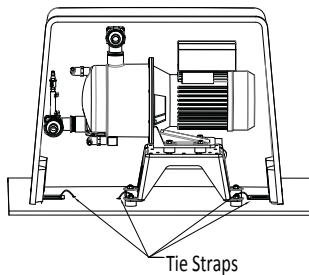

Figure 8
6. Extend piping stub-out through the floor as illustrated in Figure 8. Piping between the remote blower location and the bath can be insulated using a minimum of ½" [13mm] thick insulation. Attach new piping to the elbow of the existing piping.
- Remove the preassembled AEC assembly from the carton and detach all components from the packing board by removing the tie straps. **See Figure 8**